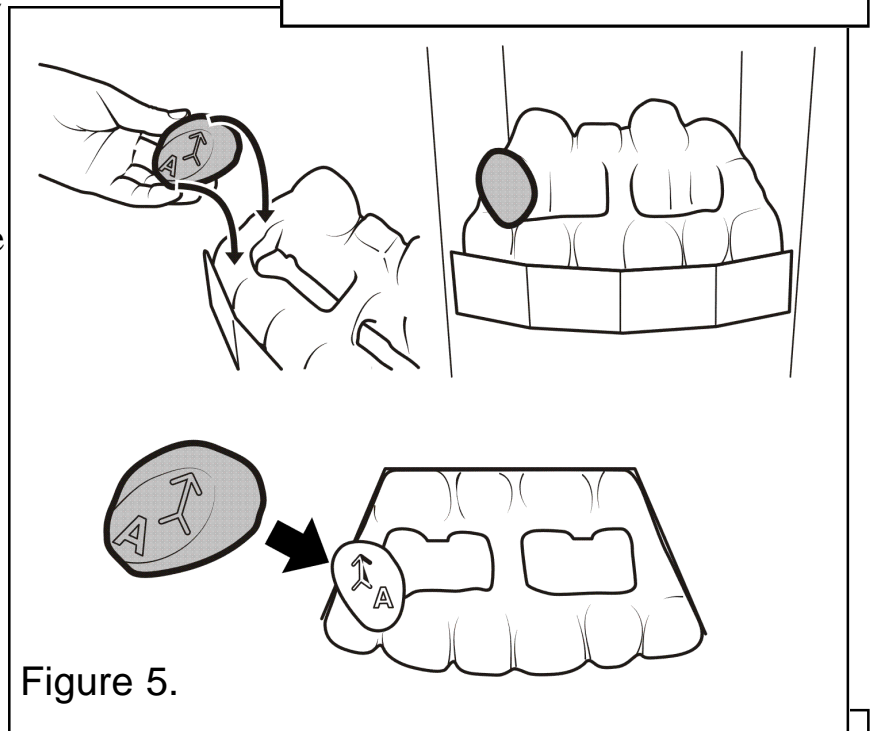

Figure 5.
2. The pebbles should be positioned so that the arrows always point towards the back of the fireplace opening. When located into position the stem of each arrow should be at 90° to the rear of the fireplace opening (See figure 5).
3. Hold pebble 'A' upright with the arrow pointing to the top. Place pebble "A" on top of the base pebble (See figure 5).